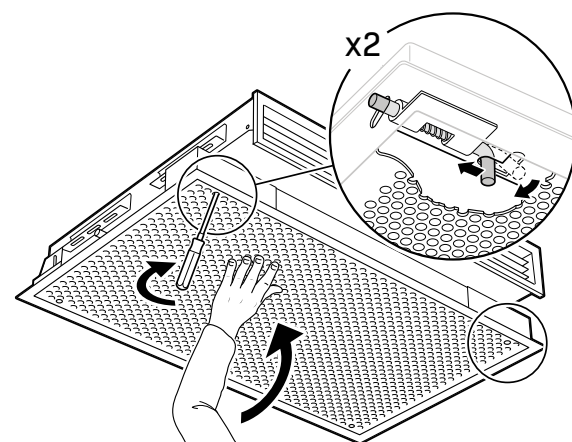

FIGURE 15
- 4) Once vacuuming and cleaning is complete, reconnect the water and fasten the screws back into the front plate. (See **FIGURE 15**)